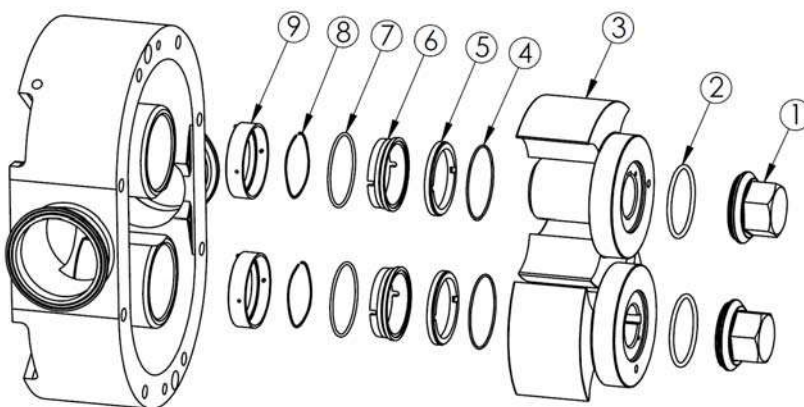

Figure 25: Exploded View Single Mechanical
3) Remove the rotors by orientating them perpendicular to each other and then pulling them out. It is important to be cautious with the rotors so that they are not damaged in any way. If rotors are difficult to remove, use a nylon or wood lever to pry them out without damaging the body or the rotors. Use Figure 25 to ensure that all parts are removed.